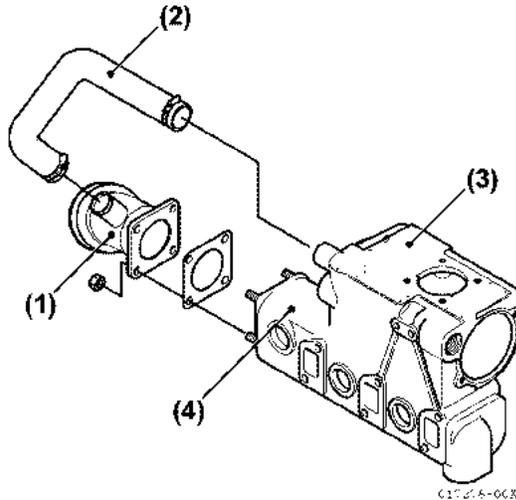
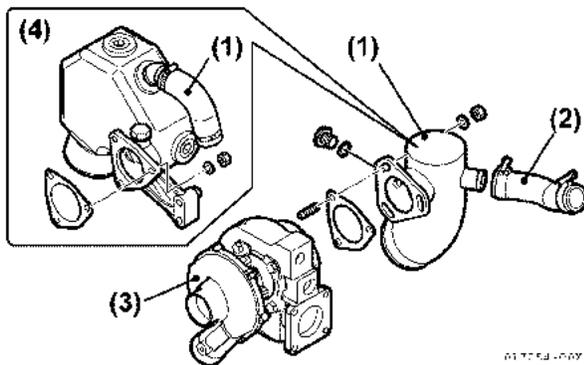

Figure 5-16
Figure 5-17
17. Remove the mixing elbow from the exhaust manifold for 3JH5E and 4JH5E (Figure 5-16) or from the turbocharger for 4JH4-TE and 4JH4-HTE (Figure 5-17).